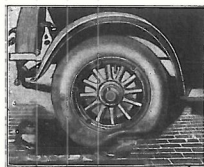

FIG. NO. 1
Figure No. 1 shows an under-inflated tire striking a hole in the pavement. The gauge showed this tire under-inflated to the extent of more than ten pounds, so that the tire was too soft to absorb the force of the blow and was crushed flat.
1. The toe of each tire bead has a soft rubber tip, see Fig. No. 1, which must not be damaged when removing or applying the tire. This soft rubber tip protects the tube from chafing.
5. After the tire has been assembled, it is imperative that it be centered on the rim before inflating. The beads must be up on the bead seats. With tires having centering ribs, the ribs must show uniformly above the rim flange, see Fig. No. 1.